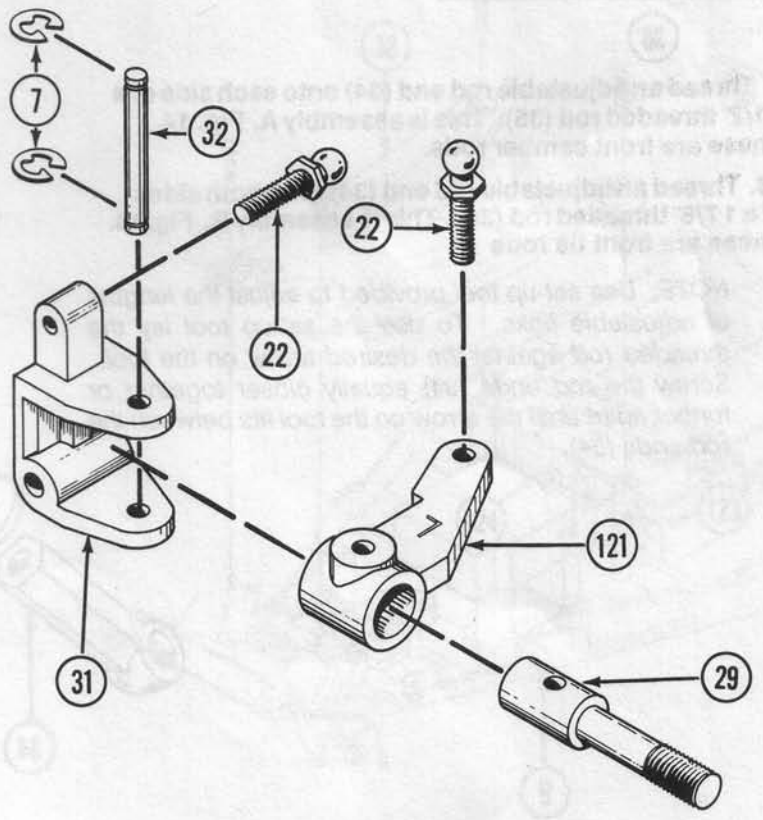

FIG. 12
5. Slide front axle (29) into spindle (30) (121) as shown so that holes are aligned. This is now called the spindle assembly. Fig. 12.
* NOTE: Spindle arms are marked for left (L) (121) and right (R) (30).
6. Place spindle assembly into spindle carrier (31) so letter on spindle (30) (121) arm faces up and insert 1/8" x .690 hinge pin (32) through spindle carrier (31) and spindle assembly and secure with two 1/8" E-clips (7). Fig. 12.
7. Thread one 3/8" studded ball (22) into top hole in spindle carrier (31) from the rear and one 3/8" studded ball (22) into spindle (30) (121) arm from the top. This is now called the spindle carrier assembly. Fig. 12.